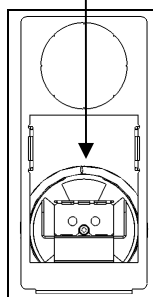

Figure 4
4. Install the spiral back into the tray selection at 12 o'clock (See Fig. 4)
4. Remove spiral and hub out of the selection (See Fig. 4)